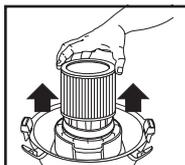

FIGURE 28
30. Slide the cartridge filter off the lid cage. **FIGURE 28.**